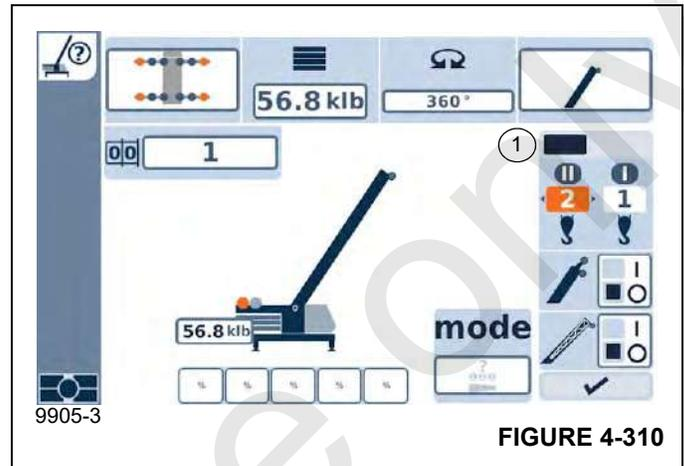

FIGURE 4-310
The symbol bar symbol (1), (Figure 4-310) must appear over top of the hoist with which the load is to be lifted.